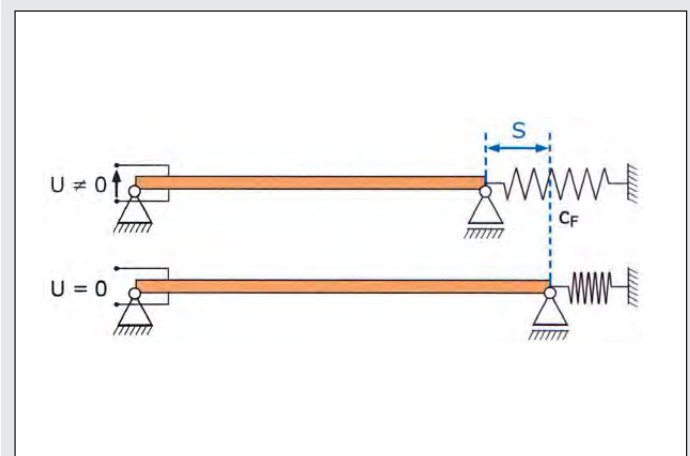
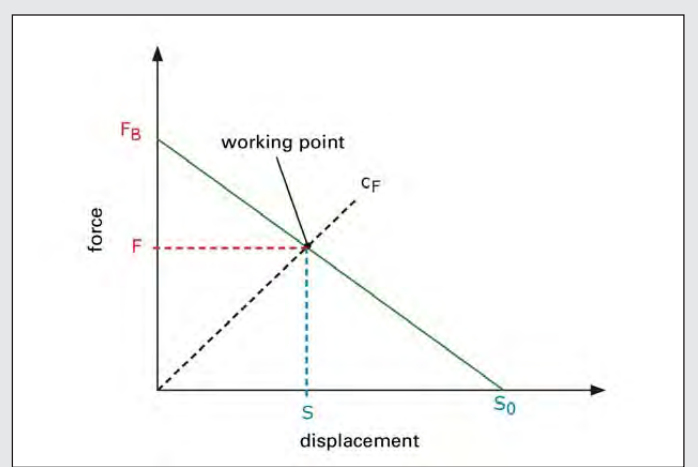

Fig. 6: Application of a spring force to an actuator
Fig. 7: Characteristic curve with spring load line
A graph of applied force versus actuator displacement is called the actuator characteristic curve (Fig. 7). It basically follows the line passing through the points with 0 force and 0 displacement described above. In most cases the actuator acts against an elastic structure,
e.g. when a spring or a metal sheet is deformed (Fig. 6). If the load is represented by a spring (characteristic curve of the spring) with stiffness of  $c_F$ , the resulting operating point is the intersection of the load line with the actuator characteristic curve (Fig. 7). The most effective operation occurs when the operating point is in the middle of the characteristic curve.